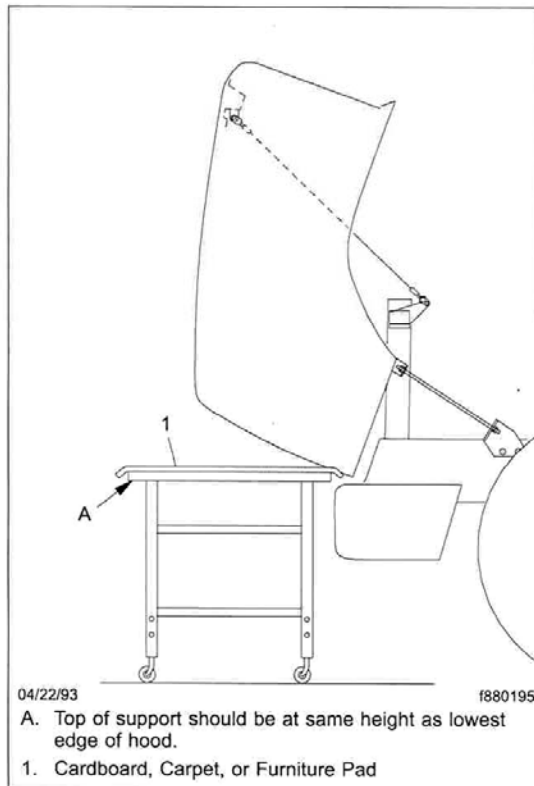

Fig. 1, Hood Support
4. Place a support between the floor and the front of the hood. See **Fig. 1**.